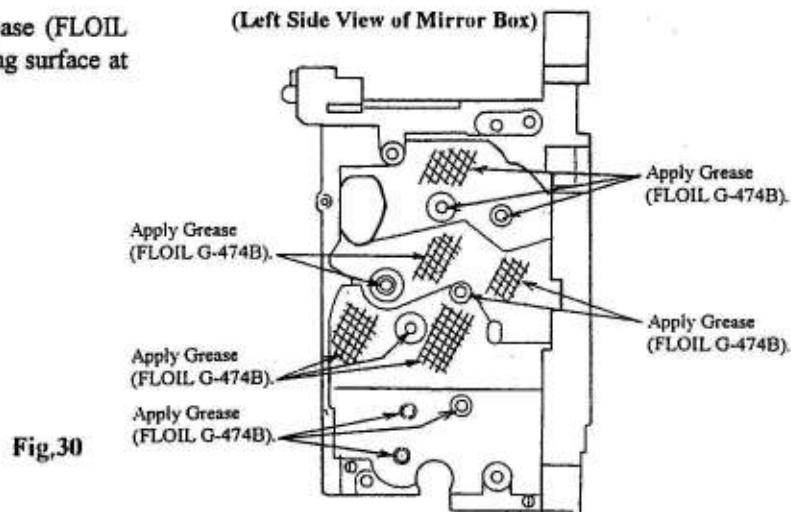

Fig.30
- a) As shown in Fig. 30, apply the Grease (FLOIL G-474B) to each gear shaft and sliding surface at the left side of the Mirror Box.